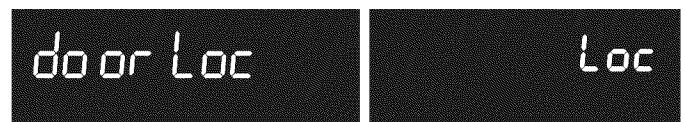

Figure 18: Display showing door locking and in locked position
2. Press and hold **Oven Lockout** for 3 seconds. **door Loc** will appear in the display. (Figure 18) The motor driven door latch mechanism will begin locking the oven door automatically. Do not open the oven door. Allow about 15 seconds for the oven door to completely lock. Once door is locked, **Loc** will appear in the display.